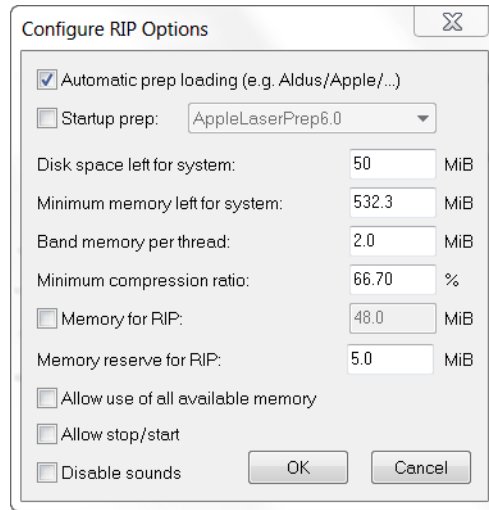

Figure 2.1 Configure RIP Options
1. In the RIP, select Harlequin MultiRIP > Configure RIP, to open the Configure RIP dialog (Figure 2.1).
- Click Options to open the Configure RIP Options dialog (Figure 2.1).